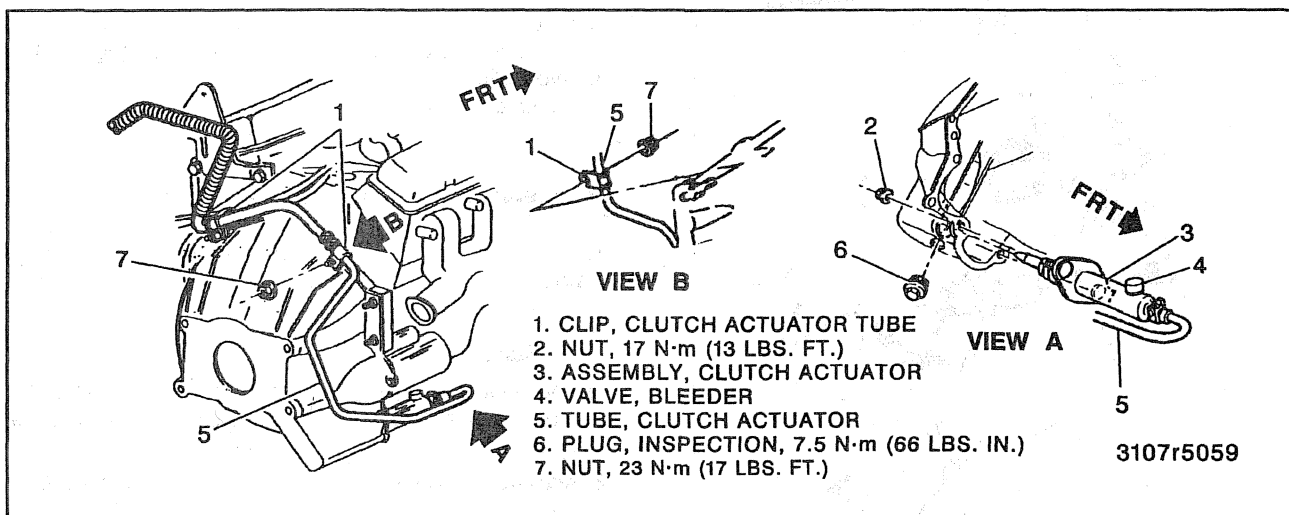

Figure 3—Actuator Cylinder and Hydraulic Hose
7. Hydraulic tube to engine nuts and clips (figure 3).
6. Clips and nuts retaining clutch actuator hose to the engine (figure 3).
2. Actuator cylinder (figure 3).